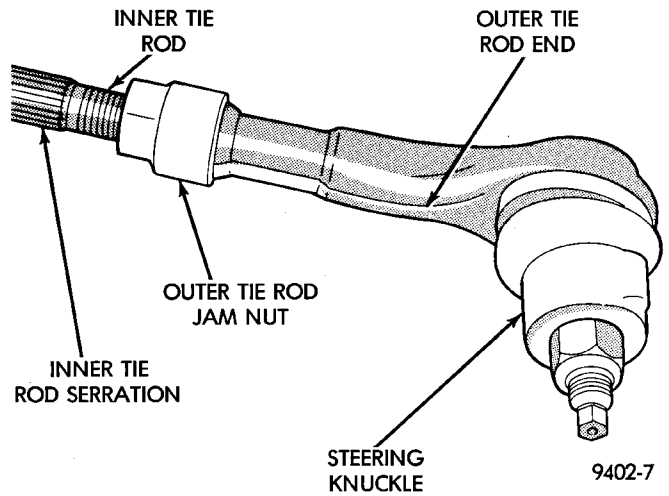

Fig. 7 Front Wheel Toe Adjustment
(7) Loosen inner to outer tie rod end jam nuts (Fig. 7). Grasp inner tie rods at serrations and rotate tie rods (Fig. 7) to set the front wheel Toe to the preferred specification. See Alignment Specifications in this group of the service manual for preferred specification.
(8) Tighten tie rod locknuts to 54 N·m (40 ft.lbs.) torque.